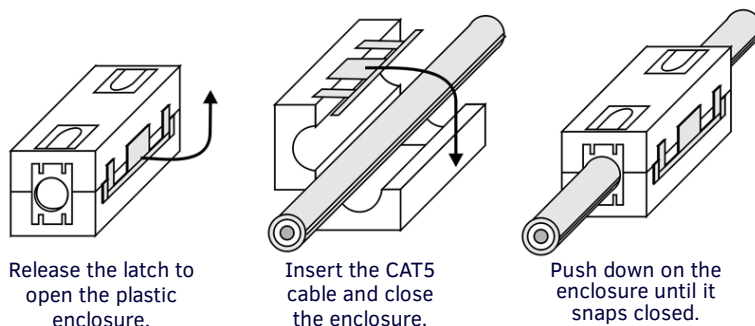

FIG. 10 Installing the CAT5 Suppression Ferrites
Before connecting the RJ-45 cables to the Modero Touch Panel, install the necessary number of CAT5 Suppression Ferrites (FIG. 10) to the RJ-45 Audio/Video cable. These Ferrites come as part of the Installation Kits mentioned in the previous Specification table (page 27).
1. The CAT5 Suppression Ferrite is housed within a plastic enclosure (shown in FIG. 10) with a latch release on one side. Pull to release the latch and open the enclosure.